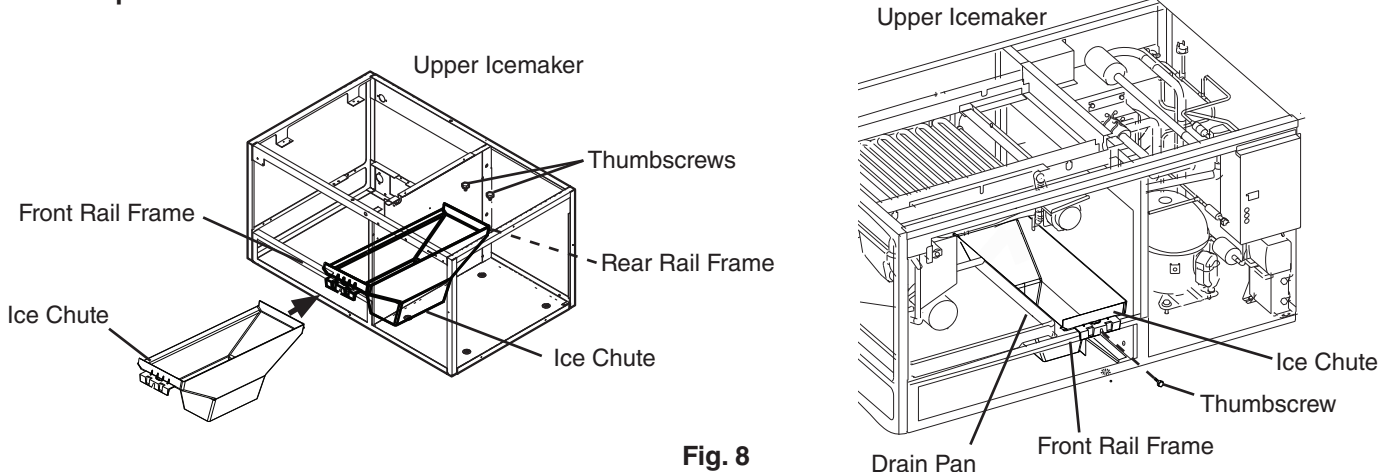

Fig. 8
- 15) Place the new ice chute provided in this kit in position as shown in Fig. 8. Secure the rear of the ice chute to the upper icemaker rear rail frame (bin control mounting bracket holes) with the new thumbscrews provided in this kit. Secure front of the ice chute to the upper icemaker front rail frame (cube guide mounting hole) with the cube guide thumbscrew removed in step 13. Confirm that the front of the ice chute clips over the front rail frame of the upper icemaker and that the drain pan is not sitting on top of the ice chute. **NOTICE! Confirm the drain pan is not sitting on top of the new ice chute.**